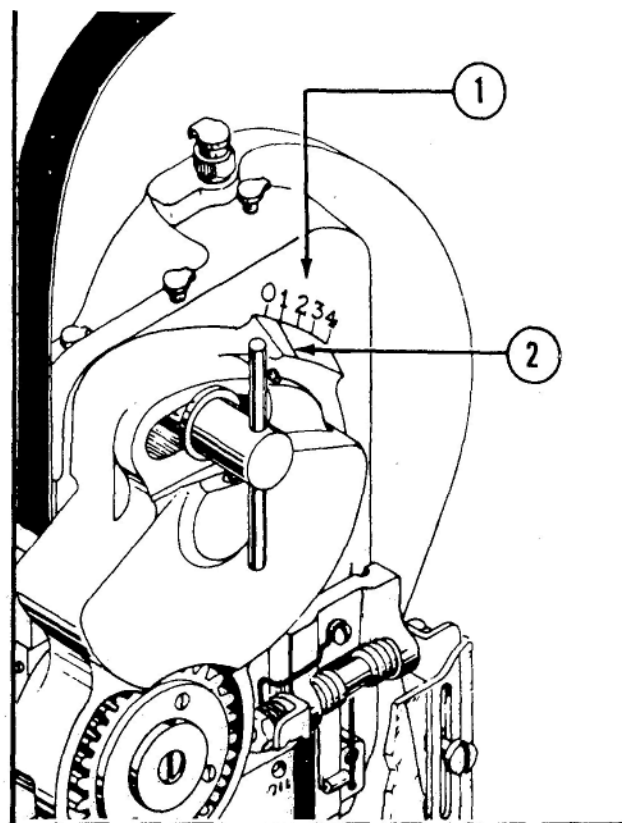

Figure 10—Wire Draw Scale
The standard wire draw heads are equipped with a length of wire draw scale. (1) Fig. 10, on the head plate, and an alignment marker (2) on the wire feed guard. The scale and marker provide a means of setting the wire draw according to the desired length. On the standard draw head the "O" marking represents 1" (25.4mm) of wire draw. Each of the other graduations in the scale on both heads represent approximately 1/8" (3.2mm) additional wire draw. Thus, if the head being operated is a standard wire draw head, a setting on the "3" (76.2mm) marking will result in a wire draw of 1-3/8" (34.9mm).